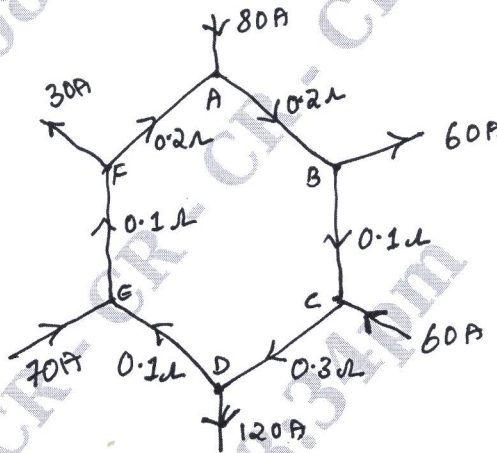

Fig.Q1(b)
- b. Find the currents in the various branches of the given network shown in Fig.Q1(b).